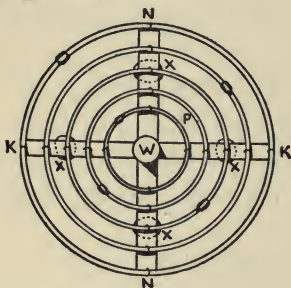

Fig. 22.
For accuracy bait-casting a target is best. The simplest form may be made as follows: Join two 1x4-inch boards in the center, as shown by KK, NN, Fig. 22, and paint them green. At their intersection attach a six-inch water-tight tin can (W), painted red. Encir-
cling this, attach to the four bars a half-inch water-tight gas-pipe ring (P) 30 inches in diameter, painted white. Four staples may be used in making it fast to the bars. Wire will catch the lures. One foot from this circle attach a similar one  $4\frac{1}{2}$  feet in diameter, and so on until five are in place. As all parts of the target should be just awash, with only the red bullséye showing distinctly, regulating devices are necessary. Four paint cans attached solidly to the bars underneath will serve, provided they do not leak. If the target floats too high, let a little water into the cans. Screw-top cans, are, for this reason, the handiest form. (See X, Fig. 22.)
Under the target W (Fig. 22) attach a large screw-eye, and to this make fast the center of a suitable line. Attach snap-hooks to one part of the line, say 60, 80, and 100 feet from center of target. If the 60-foot hook is made fast to the ring on the platform, the other end of the line is run through a pulley-block on a float anchored about 110 feet from the platform, then back to the platform, where it is belayed. When all contestants have finished casting at 60 feet, the 60-foot snap is cast off, the 70-foot snap attached to the ring on the platform, then, by hauling on the other end of the line, the target is moved out to 70 feet, and so on up to